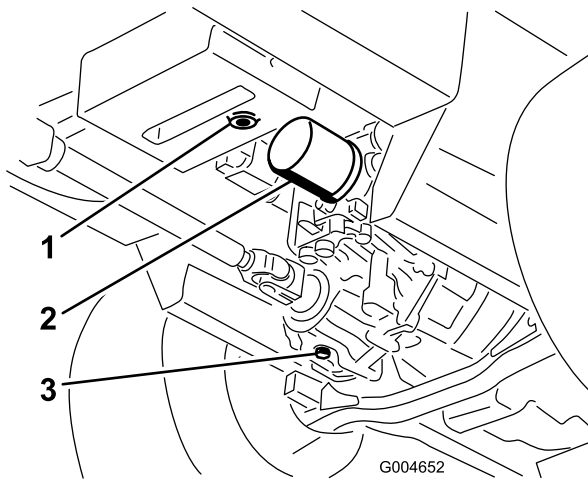

Figure 90
3. Place a large pan under the hydraulic reservoir and transmission case and remove the plugs, draining all of the hydraulic fluid (Figure 90).
4. Clean the area around the hydraulic oil filter and remove it (Figure 90).